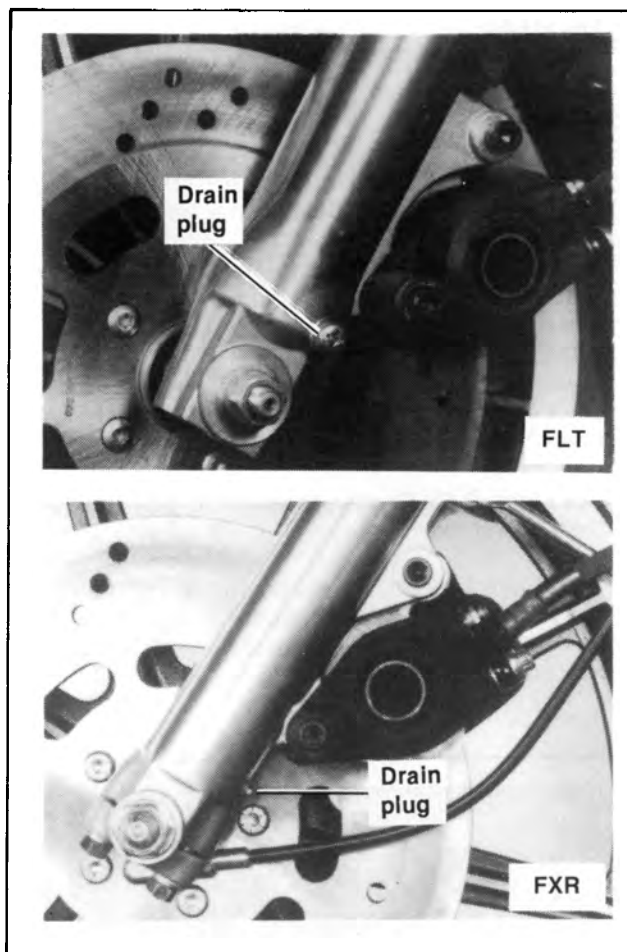

Figure 2-64. Fork Drain Plug — FLT, FXR
4. See Figure 2-64. Remove the drain plug from the bottom of each fork and drain the oil.